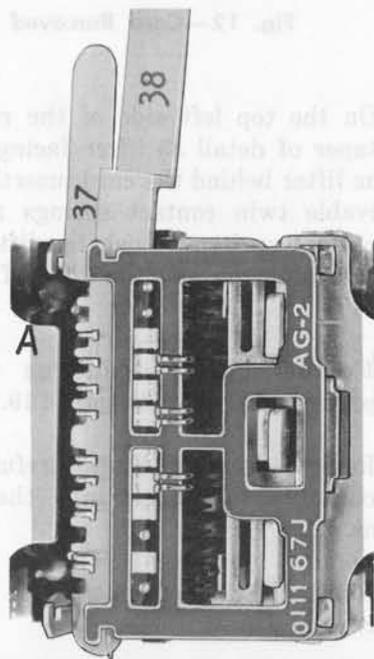

Fig. 9—Detail 38 Comb Lifter in Place With Detail 37 Comb
4.14 With the taper of detail 38 comb lifter facing to the right, place the groove (on left side of detail 38) over the right side of the protruding detail 37 comb. Holding the comb with the left hand, slowly push detail 38 comb lifter down until all movable contact springs are lifted in pairs as shown in Fig. 9.